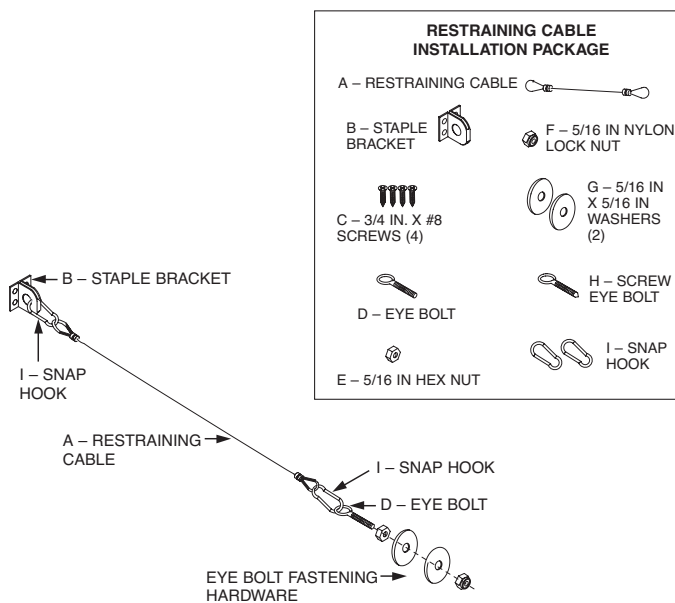

FIGURE 20
- Attach one of the snap hooks (included in the Restraining Cable package) on the end of the Restraining Cable to the wall bracket and the other snap hook to the eye-bolt (See Figure 20). After snap-hooking the assembly, seal the Restraining Cable Loops to the wall bracketry and appliance connection hardware with ANSUL Lead Wire Seal, Part No. 197.